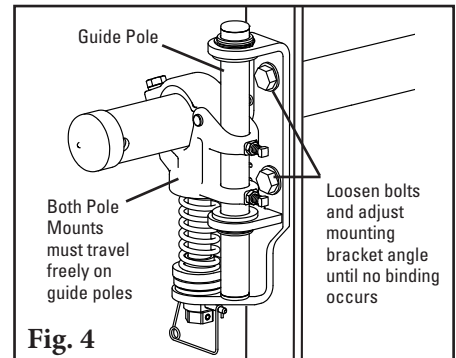

Fig. 4
- 5. **Set adjusting rod sleeve.** After setting the blade tension, screw the adjusting rod sleeve into the UHMW bushing until 38 mm (1-1/2") is showing (Fig. 4). Tighten the adjusting rod sleeve jam nut.
- Ensure the tensioner travels freely.** Pull up and push down on each pole end to ensure the pole mount travels freely on the guide pole. If there is any sign of binding, loosen the bolts on the mounting base and pivot until the tensioner moves freely (Fig. 4). Retighten bolts.
4. **Connect the supply lines and set tension pressure.** With the parts supplied, attach a line to each air bag and run the lines to the outlet side of the control box (Fig. 4).